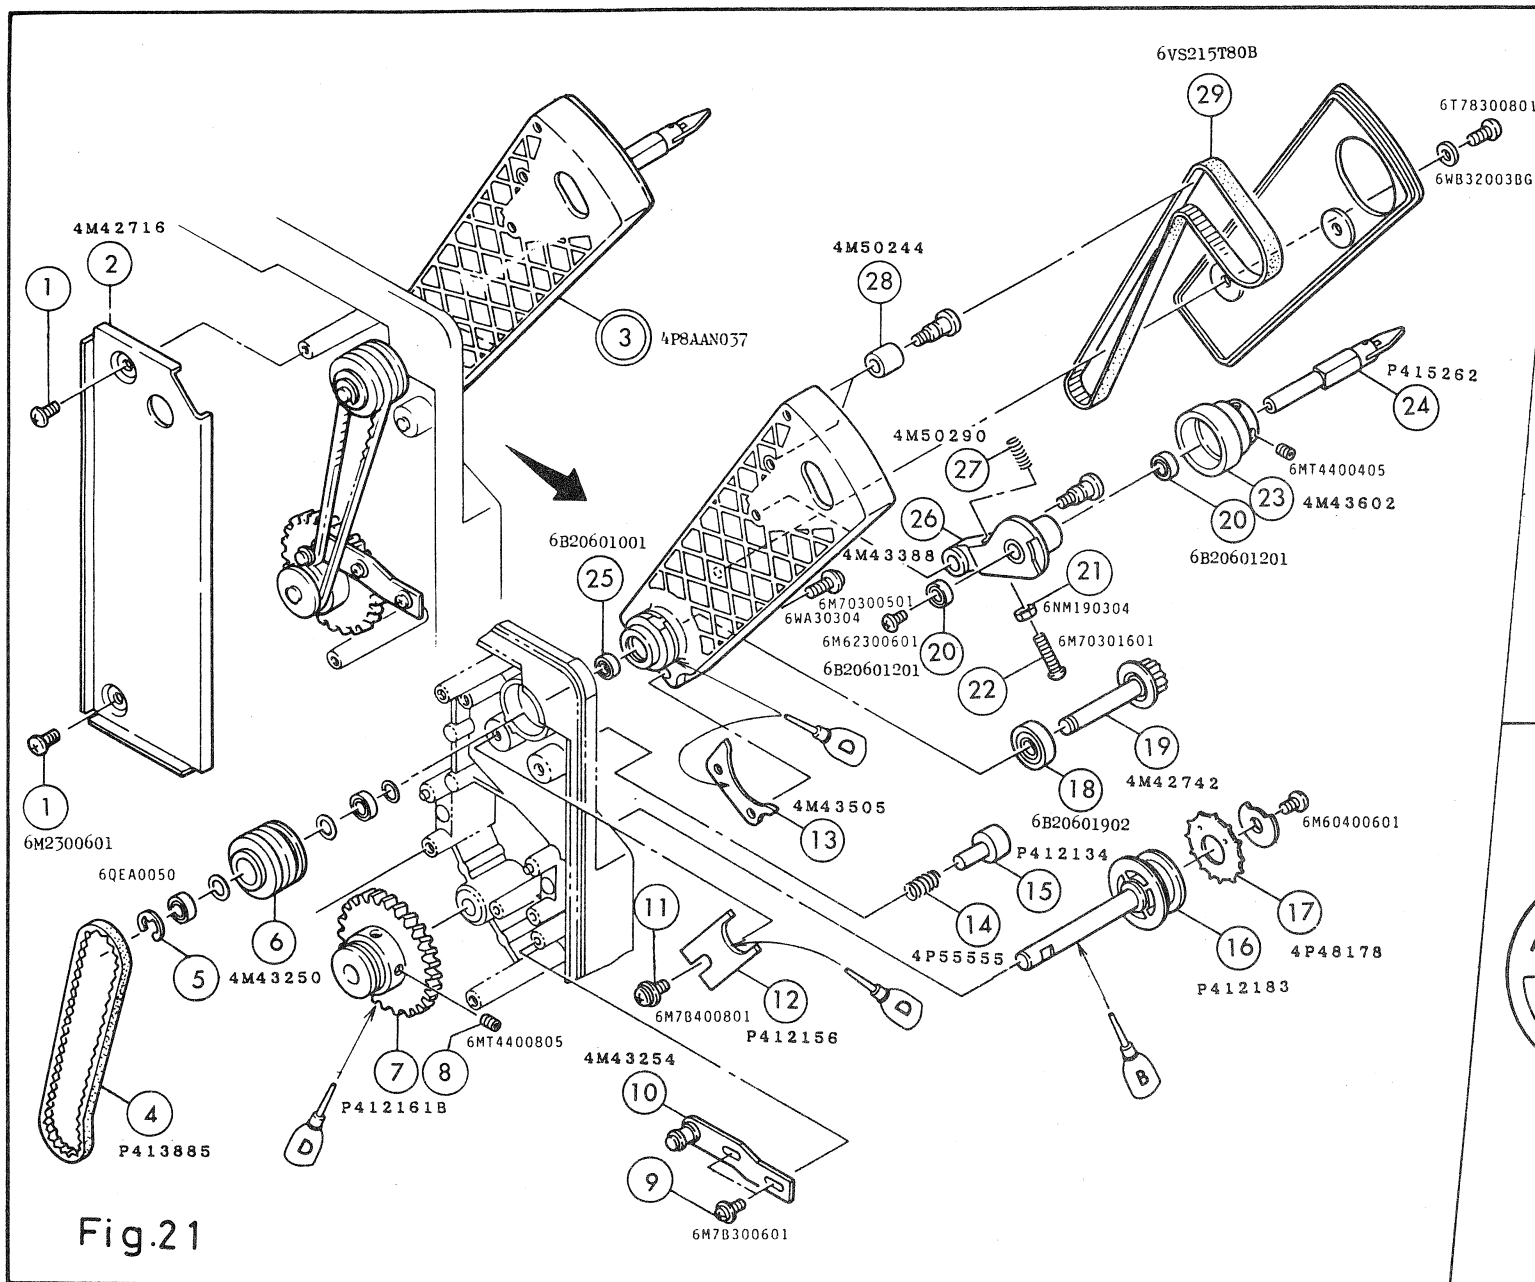

Fig. 21
2. Unscrew the 2 pieces of screws ① and remove ②.
3. Loosen the 2 pieces of screws ⑨, shift ⑩ sidewise, and disengage the belt ④.
4. Remove the E ring ⑤, and take out ⑥.
5. Unscrew the screw ⑪, and remove ⑫ to take out ③, taking care so as not to drop ⑭ and ⑮.
6. Loosen the 2 pieces of screws ⑧, and remove ⑦ to take out ⑬.
7. For further disassembly refer to Fig. 21.